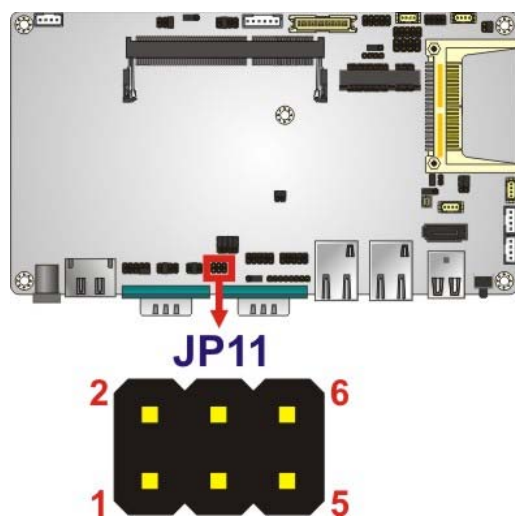

Figure 2-8: COM3 TX Function Select Jumper Pinout Locations
- Jumper Location:** See **Figure 2-8**
The COM3 TX Function Select jumper location is shown in **Figure 2-8** below.